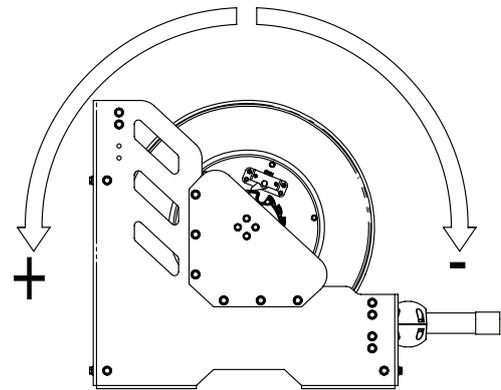

Fig. 6
3. Once the hose is completely wound around the spool (the power springs still will be with no tension), apply the pretension to the power springs by turning the spool the number or turns stated in the table depending on the hose length (see table), turning in positively direction as shown in (fig. 6). Do not apply more tension than stated, as the power springs could be damaged.
6. Apply the pre-tension to the power springs by turning the spool towards positive direction, the number of turns indicated in (fig. 6), depending on the hose length. Do not apply more tension than stated, as the power spring could be damaged.
2. Loosen the 2 bolts (1) (Fig. 6), and the 4 nuts (2) (Fig. 6). Remove the ratchet assembly.
3. Clean the components, or replace the ratchet assembly with a new one. In the case of unscrewing the ratchet shaft (3) (Fig. 6), be sure to clean the thread and apply medium-strength threadlocker before screwing it back into the plate (4) (Fig. 6).
4. Assemble the ratchet assembly in place and tight the 2 bolts (1) (Fig. 6) and the 4 nuts (2) (Fig. 6).